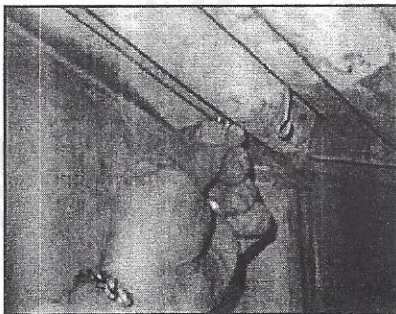

Figure 17
- Swing the scraper rod up and into place around the tubes. If installing on a stove that has 12 tubes, the loop will be tight and you will have to put extra pressure on the needle nose pliers to pull it through. After the loop is over the tube, use a Phillips head screw driver and needle nose pliers to loosely attach the wire loops to the scraper rods using the 8-32 screws and locking nuts. After all screws and nuts have been attached, tighten them all. **Figure 17**.